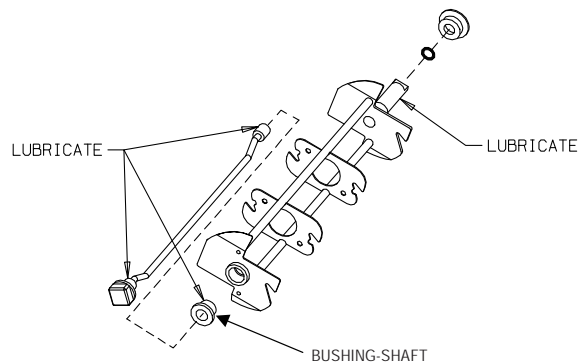

Figure 7-2 Install shaft seal assembly on beater shaft
2. Place the quad ring over the rear of the beater shaft and lubricate. Install the beater shaft seal (figure 7-2) over the rear of the beater shaft, with the bell-shaped portion facing the rear and the washer portion against the quad ring.
3. Apply lubricant to the shaft bushing (figure 7-2) and slide onto the breaker bar.
4. Insert the breaker bar into center of beater shaft. Lubricate the bearing surfaces and insert the breaker bar into the hole in rear beater shaft disc (figure 7-2).
The beater shaft bushing (shown in figure 7-2) must be installed or the freezer will be damaged.